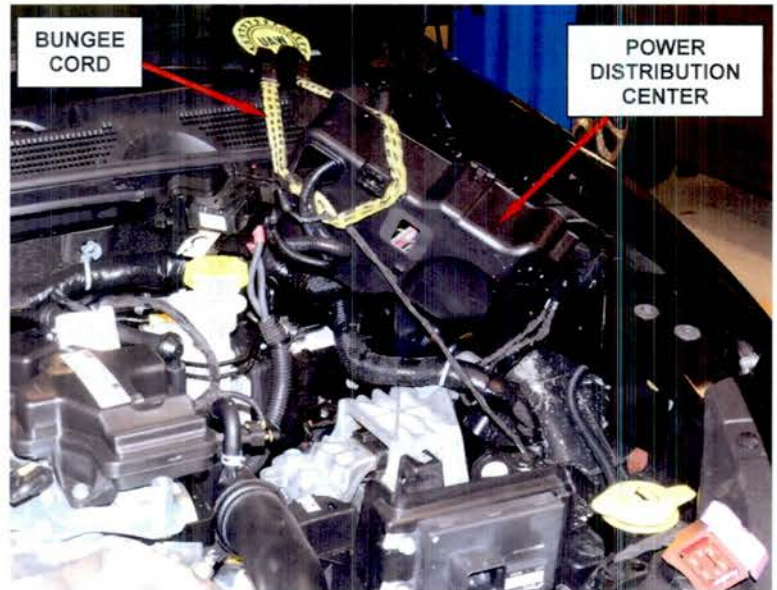

Figure 3 – Relocate Power Distribution Center
5. Remove and save the Power Distribution Center (PDC) fasteners and relocate the PDC out of the way (Figure 3).